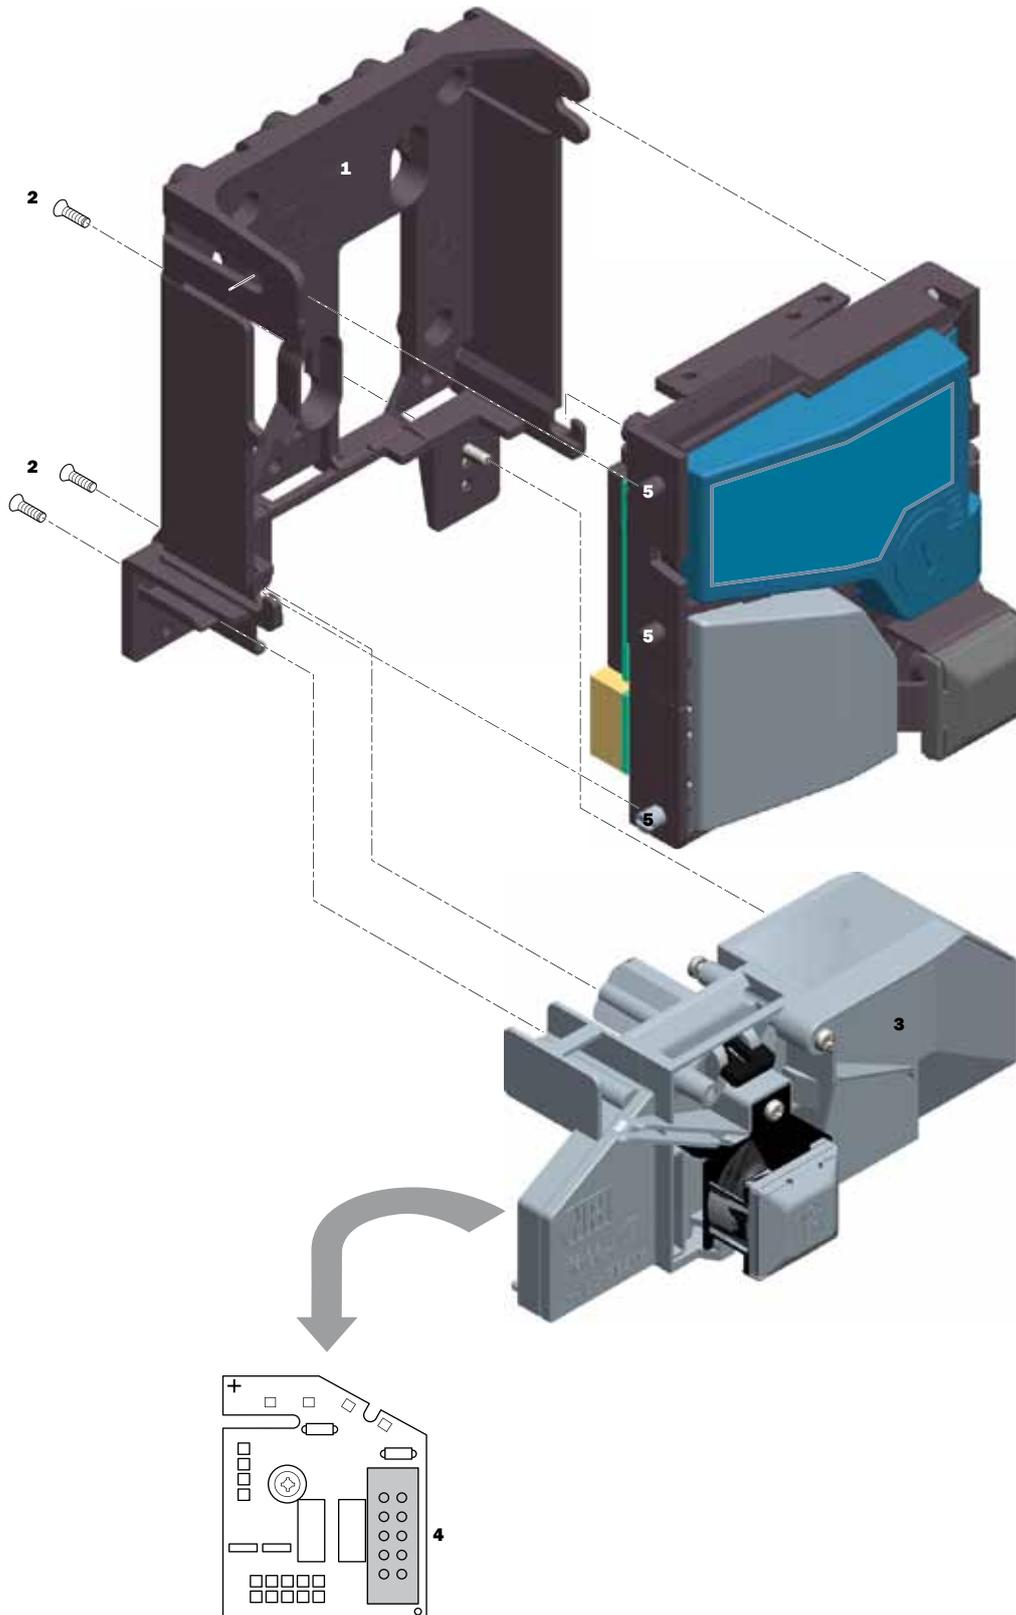

Fig. 10: Connecting the top entry version of the v² colibri to the s² SSD-3002 3-fold sorter
- 1** Fasten the mounting frame [Fig. 10/1] using the three screws [Fig. 10/2] on the back of the sorter [Fig. 10/3].
- 2** Connect the sorter [Fig. 10/3] to the coin validator by means of the 10-pin sorting connector [Fig. 10/4] on the back of the sorter and of the coin validator with the help of the associated sorting cable.
- 3** Suspend the coin validator on its mounting studs [Fig. 10/5] in the mounting frame [Fig. 10/1]: insert it first at the bottom then press it in at the top until it snaps in.